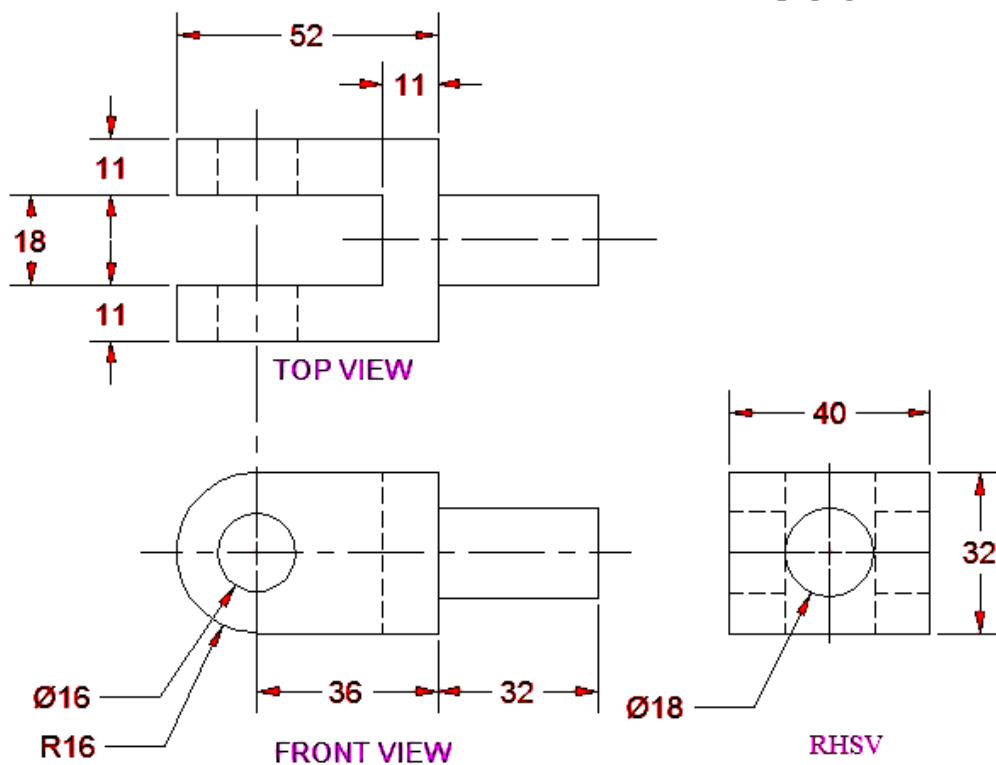

Figure 3
3. Draw Isometric View for **Figure 3**